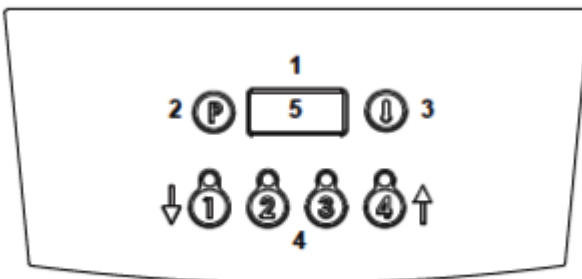

Figure 4 – E3840P/E3840FP Control Panel
2.3.3 E3840P/E3840FP Fryer Control Panel (See Figure 4)